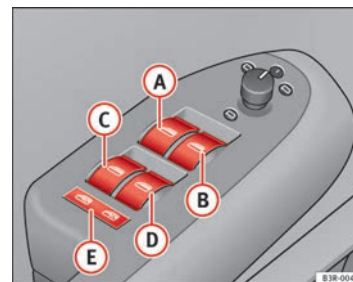

Fig. 79 Detail of the driver door: Controls
- A** Switch ⇒ Fig. 79 for the driver door window
The safety switch \Rightarrow Fig. 79  can deactivate the rear door switches. The windows can only be operated from the rear when the safety switch is pressed in.